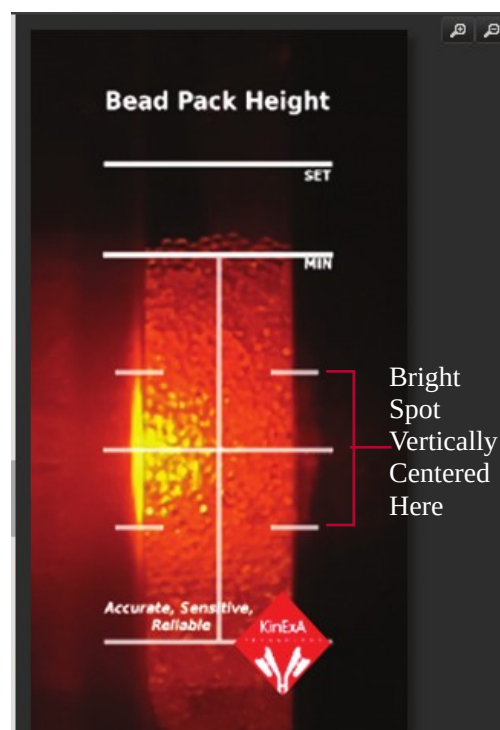
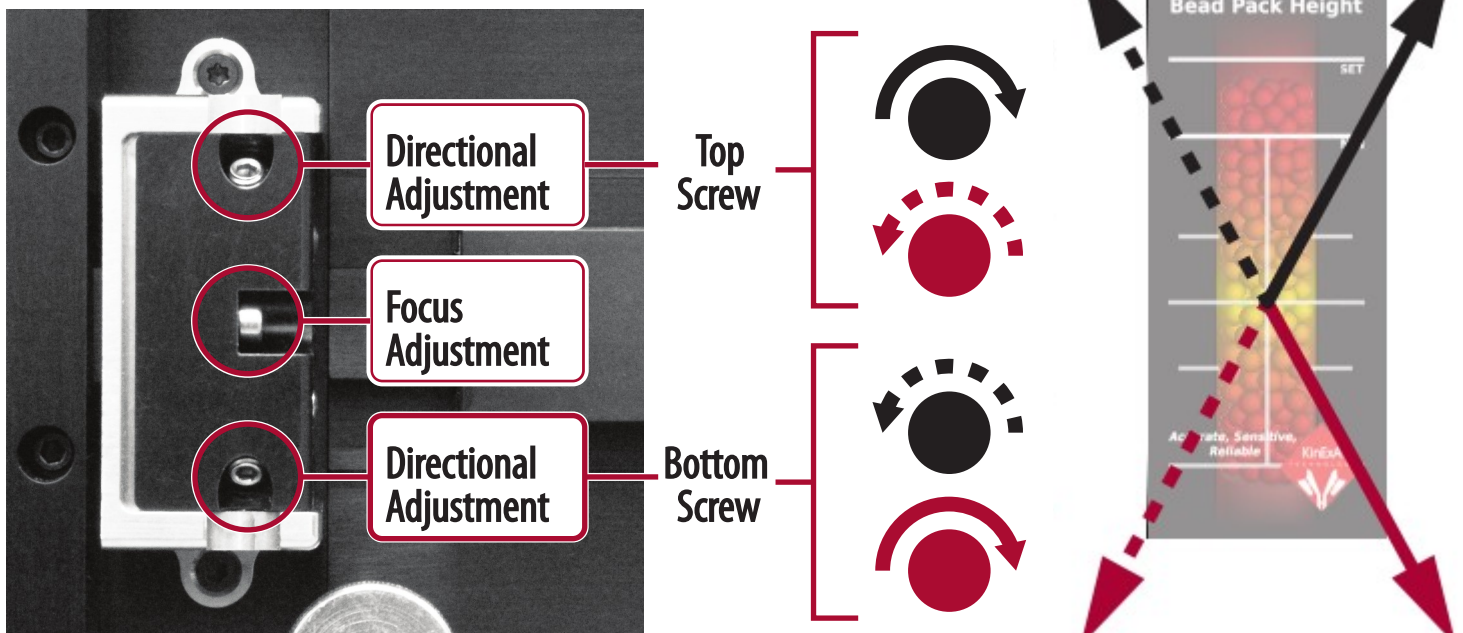

Figure 2. Camera Image with the flow cell and bright spot correctly aligned with the grid lines
Figure 3. Adjustment screws for the Omnivision camera and directional diagram.
4. A browser will open up to display the flow cell and grid lines to assist with alignment (**Figure 2**).
7. Use **Figure 3** to identify the adjustment screws of the camera.
9. Use the directional adjustment screws to **vertically align the bright spot of light** and to **horizontally align the flow cell** in the center of the grid lines (**Figure 2**). The camera does not move straight up, down, left, and right. **Figure 3** shows how turning the top and bottom screws will move the camera image seen in the software (**Figure 2**). There is a slight delay in response on the computer monitor so be patient for the screen to update after slight movements. If preferred, the camera view can be zoomed by clicking the magnifying glass icons to the upper right of the camera image.